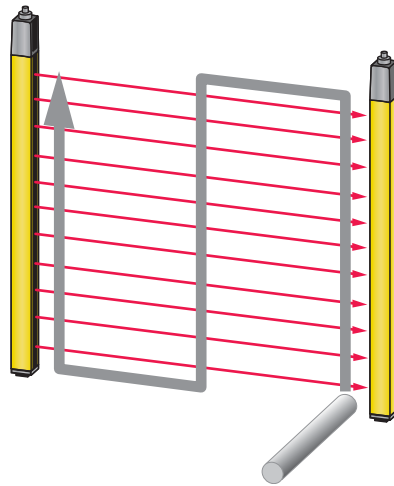

Figure 9.1: Checking the protective field function with test rod
↪ During operation, interrupt an active light beam with a test object provided for this purpose (see figure 9.1). Is the dangerous movement shut down immediately?
- ↪ Interrupt all light beams at different distances from the transmitter and receiver with the test rod from a position outside the danger zone (see figure 9.1) and ensure that the machine cannot be started with an interrupted light beam.